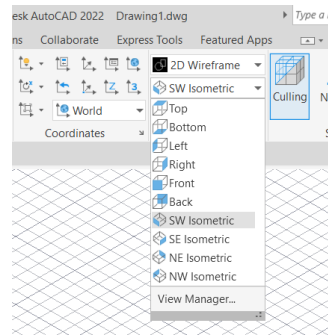

Fig. 9.3
- 4 To change the 2D axis into 3D, select **SW Isometric** from the Ribbon menu, and the axis will switch to a 3D orientation as shown in Fig. 9.3.